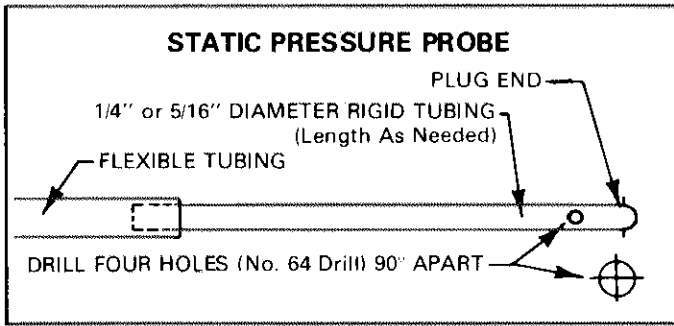

FIGURE 90
- 1 - Assemble a static pressure probe according to Figure 90.